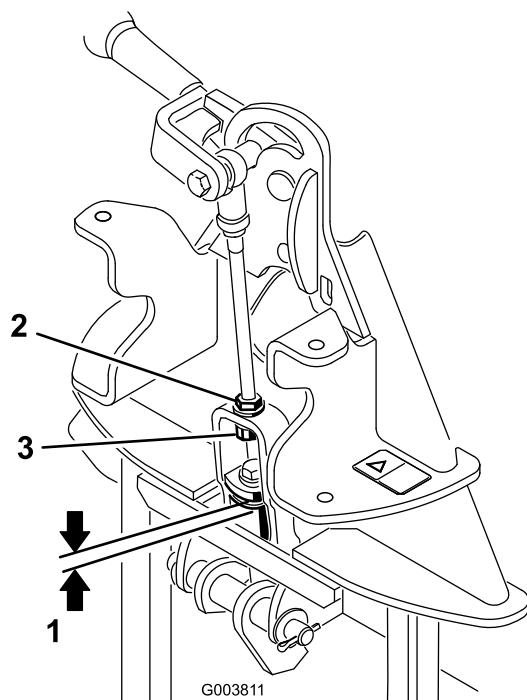

Figure 4
2. Measure the gap between the top washer and the spacer in the link assembly on the attachment adapter as shown in Figure 4.